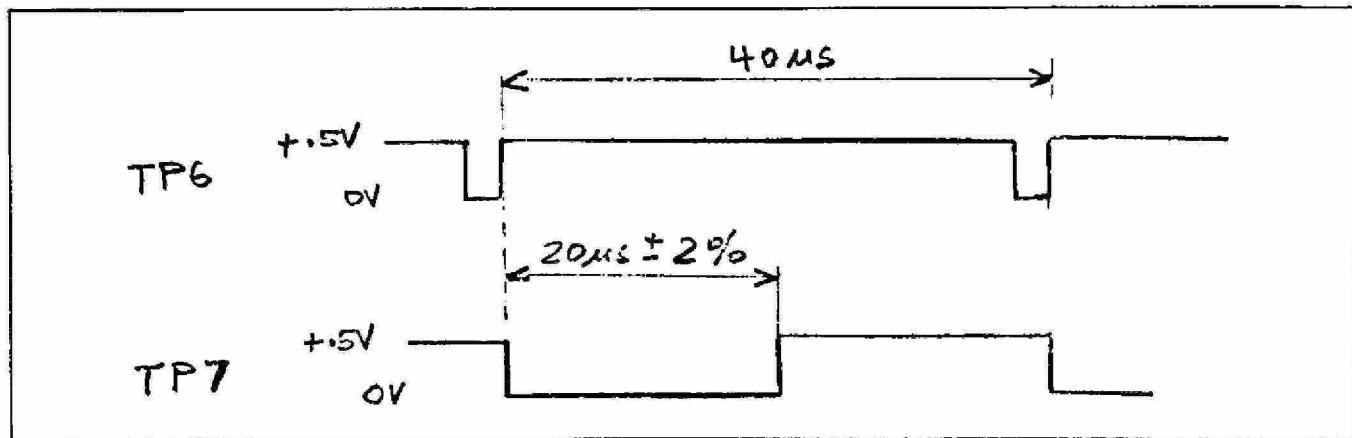

FIGURE 5-20. OBSERVE DUTY CYCLE SETTING
- 1) Set R29 for a 50 percent duty cycle as shown in Figure 5-20.